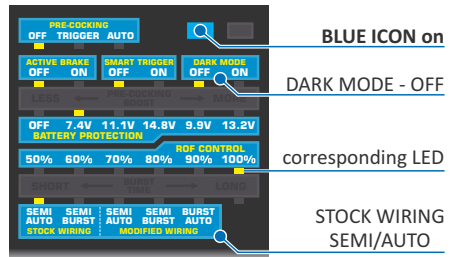

Fig 5
2. Connect the Controller to the Programming Card. All current settings are displayed on the corresponding LEDs (Fig 5).
3. When the **BLUE ICON** is on, check only on the blue display of the Programming Card (Fig 5).